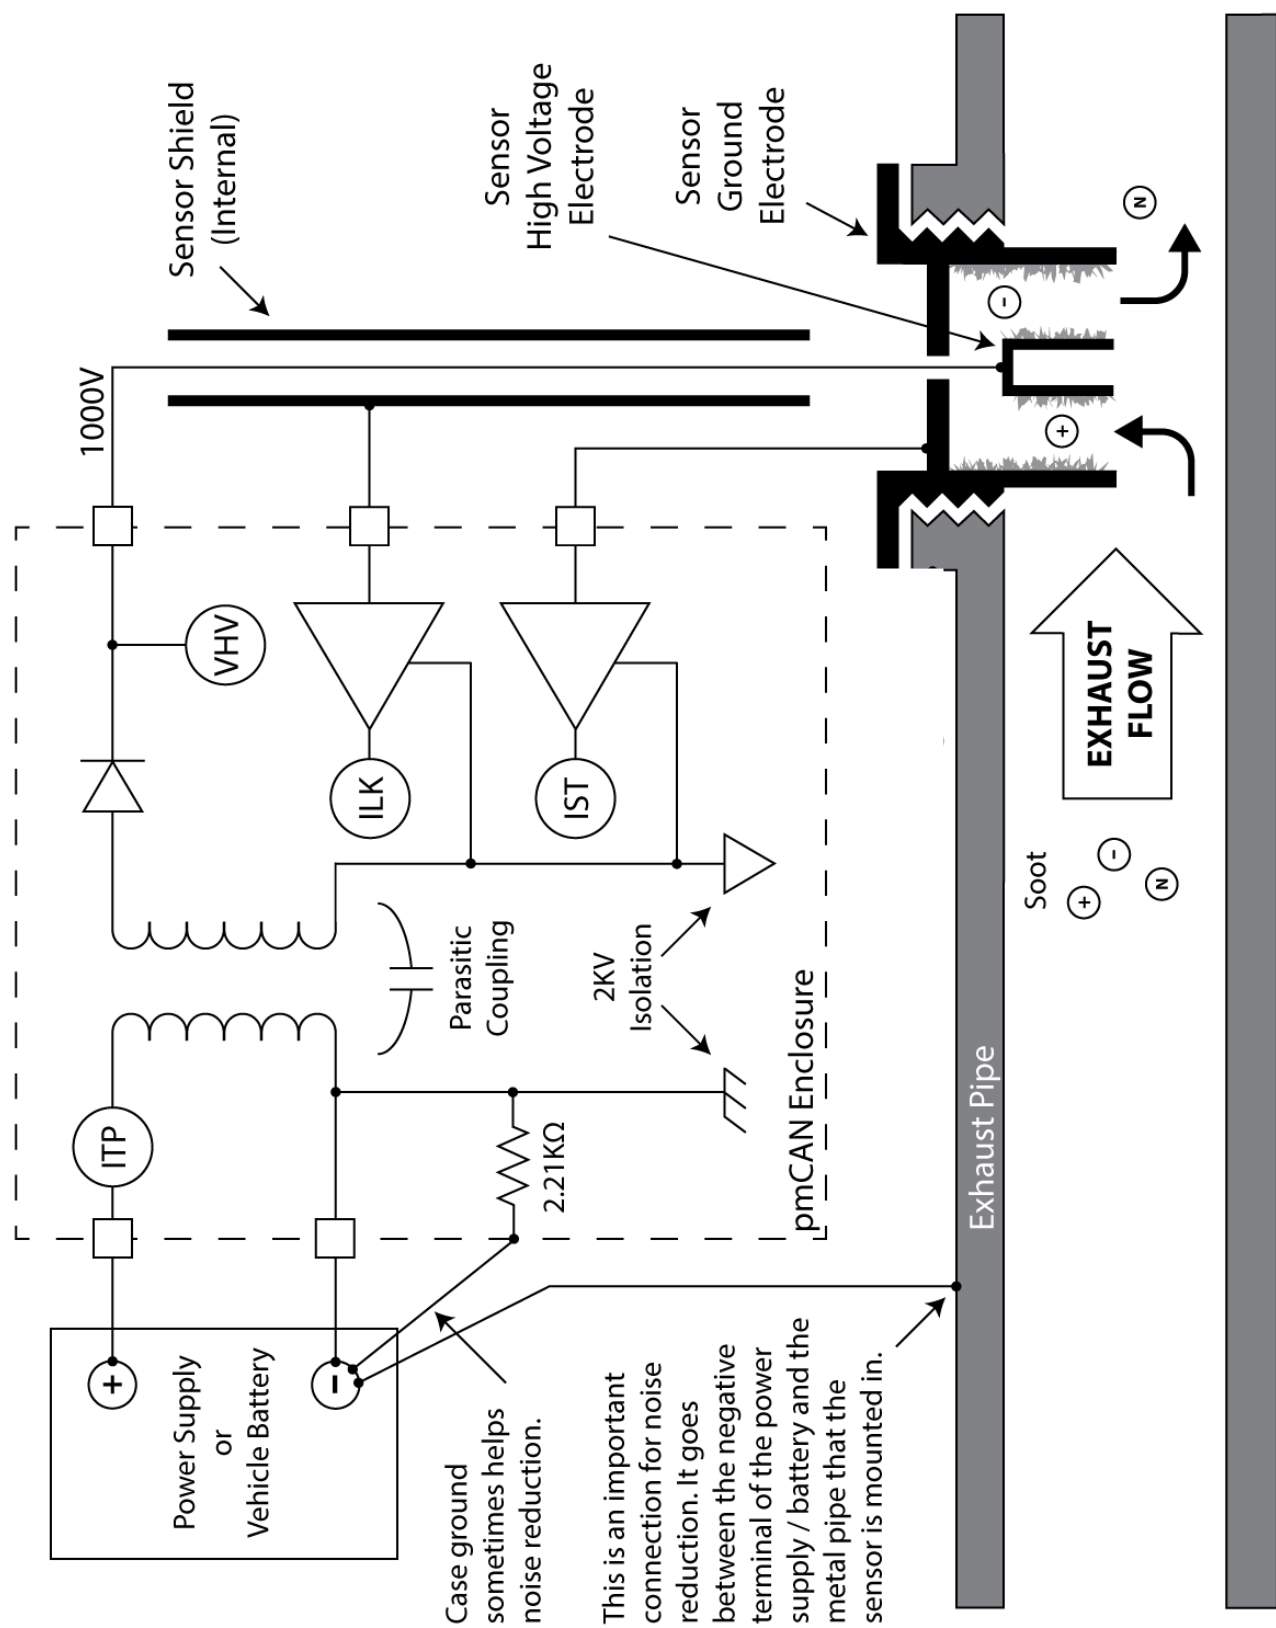

Figure 2: PM Sensor and Electronics
Figure 2 contains a more descriptive diagram of the sensor and the external measurement electronics. Note from the figure the following:
6. PM can be positively, negatively, or neutrally charged. This is represented in Figure 2 by the circles with “+”, “-“, or “N” in them inside the exhaust pipe and sensor.
Fouling the Sensor: Fouling is the direct shorting (via carbon or a liquid) between two or more of: the high voltage electrode, the ground electrode, or the shield (see Figure 2). Most of the time, fouling occurs between the high voltage electrode and the ground electrode. Fouling often occurs as follows: